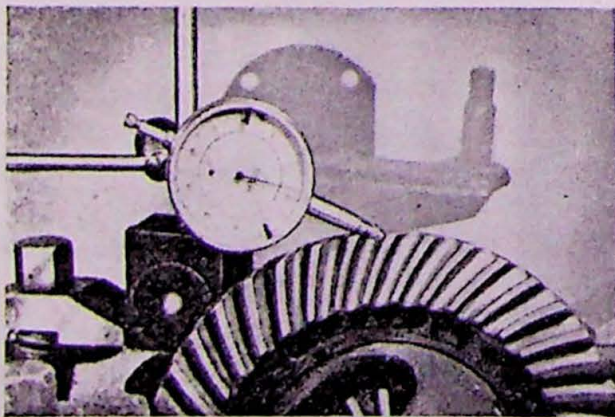

Fig. 5-28. Measuring the backlash
13. Measure the backlash as shown in Fig. 5-28. This should be 0.004"—0.008".
backlash must be adjusted and checked, see Fig. 5-28. On a hypoid gear, the tooth contact pattern moves diagonally over the teeth and in a different direction on the driving and reverse side.